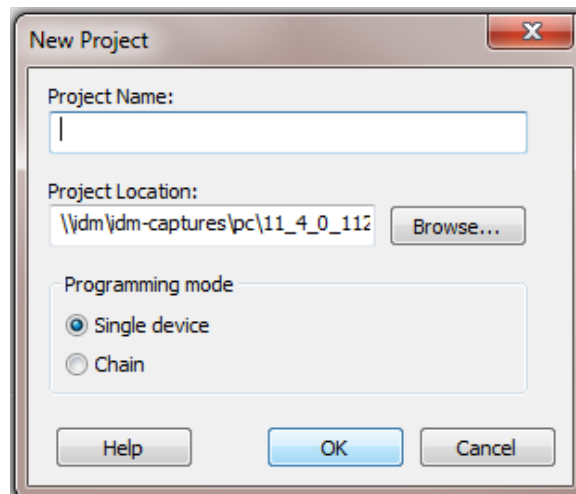

Figure 69 Creating a New Project
3. Click **New Project** to create a new project. Refer to Figure 69.